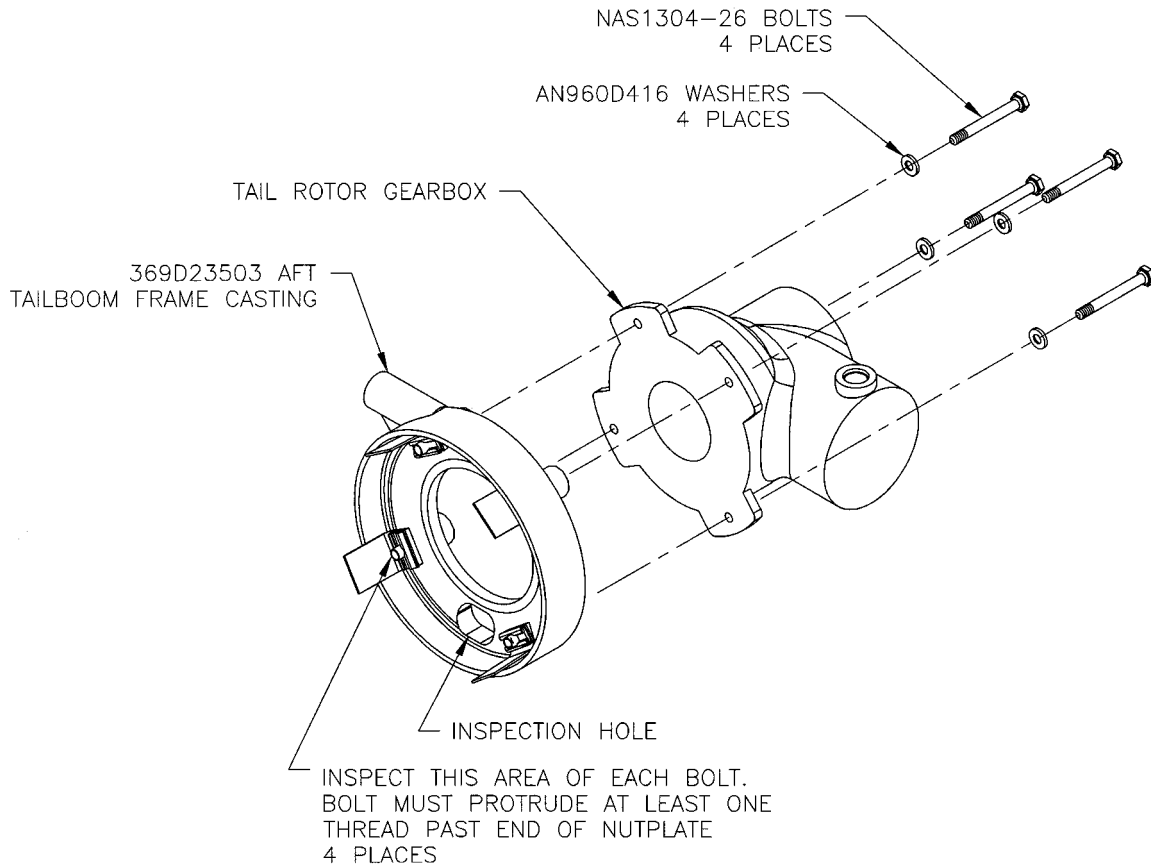

Figure 1 - Inspection Location
6. Inspect the nutplates on the internal surface of the aft tailboom frame casting, p/n 369D23503 as shown in *Figure 1*.